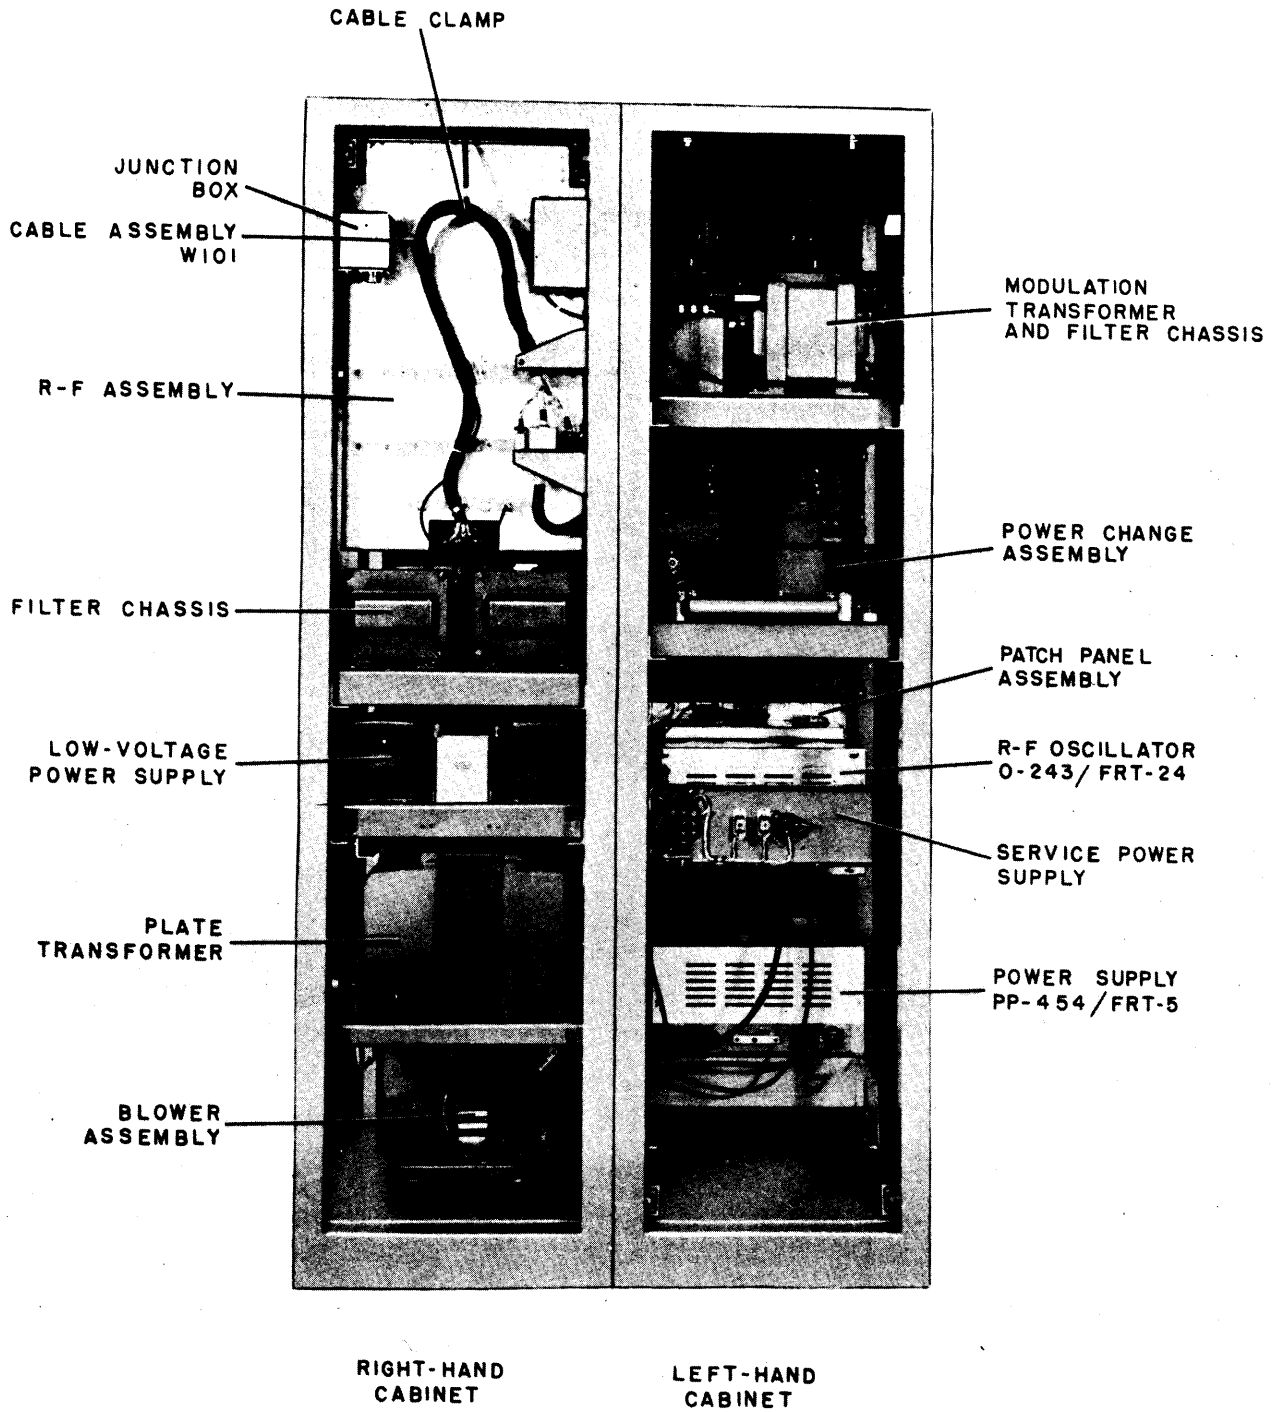

Figure 3-9. Radio Transmitter T-440/FRT-24, Rear Panel Removed
(b) **INSTALLATION.**—To install the R-F Assembly (see figures 3-9 and 3-11), pull the telescoping slides part way out of the transmitter cabinet. Two or three persons will then be required to lift the R-F Assembly and insert it into place on the slides. Hold the OPEN-LOCK switch to OPEN and push the R-F Assembly back and into the transmitter cabinet until the connectors on the rear of the R-F Assembly engage the corresponding connectors mounted on the transmitter cabinet. Release the OPEN-LOCK switch. If the connectors on the R-F Assembly do not engage properly the connectors on the transmitter cabinet, and position the connectors to align with those on the R-F Assembly, then securely tighten the bolts. Refer to table 3-2 and to figures 3-9 and 3-12 to connect cable assembly W101 to the top of the R-F Assembly with a cable clamp.
The High-Voltage Power Supply is composed of three chassis: a plate transformer, a filter chassis, and a rectifier chassis. Each chassis is mounted separately. See figures 3-9 and 3-11 for their location.
Mount the Low-Voltage Power Supply directly above the plate transformer (see figures 3-9 and 3-11). For Low-Voltage Power Supply connections, refer to table 3-4 and figure 3-12.
(b) INSTALLATION. — The Modulator Assembly is comprised of two chassis—an audio chassis and a modulation transformer and filter chassis. To install the Modulator Assembly, proceed as described below (see figures 3-9 and 3-10).
transformer and filter chassis. (See figures 3-9 and 3-10.) Bolt it to the cabinet frame. For Power Change Assembly connections, refer to table 3-8 and figure 3-12.
(8) DIAL CONTROL ASSEMBLY.—Mount the Dial Control Assembly directly in front of the Power Change Assembly. (See figures 3-9 and 3-10.) Bolt it to the cabinet frame. Connect P802 to J802 and P801 to J801. (See figure 3-12.)
the Service Power Supply in the rear of the transmitter cabinet, below the Power Change Assembly. (See figures 3-9 and 3-10.) Bolt it to the cabinet frame with the hardware supplied. For Service Power Supply connections, refer to table 3-9 and figure 3-12.
(10) **POWER SUPPLY PP-454/FRT-5.**— Power Supply PP-454/FRT-5 is mounted in the relay rack, located in the left-hand cabinet. To mount the Power Supply, proceed as described below (see figures 3-9 and 3-10).
(11) **R-F OSCILLATOR O-243/FRT-24.**— R-F Oscillator O-243/FRT-24 is mounted in the relay rack, located in the left-hand cabinet. To mount the r-f oscillator, proceed as directed below (see figures 3-9 and 3-10).
Oscillator O-243/FRT-24. (See figure 3-9.) For Patch Panel Assembly connections, refer to table 3-12 and figure 3-12.